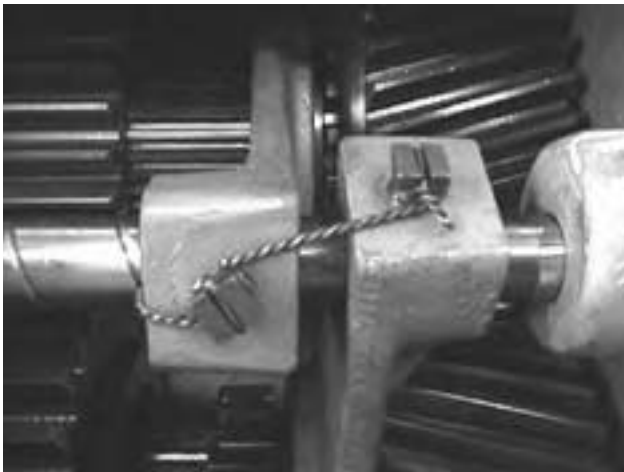

Fig. 2
4. Remove and discard safety wire from the high-low shift shaft bolts and then remove bolts using a double square socket. See Figs. 2 and 3.